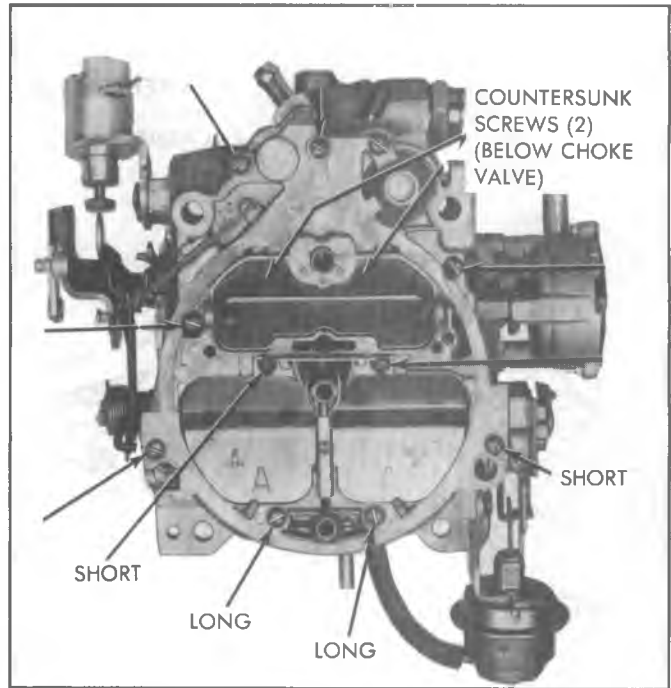

Fig. 6C4-11--Air Horn Screws
7. Remove air horn from float bowl by lifting straight up. The air horn gasket should remain on the float bowl for removal later (Fig. 6C4-12). When removing air horn from float bowl, use care to prevent bending the small tubes protruding from the air horn. These tubes are permanently pressed into the air horn casting. DO NOT REMOVE.